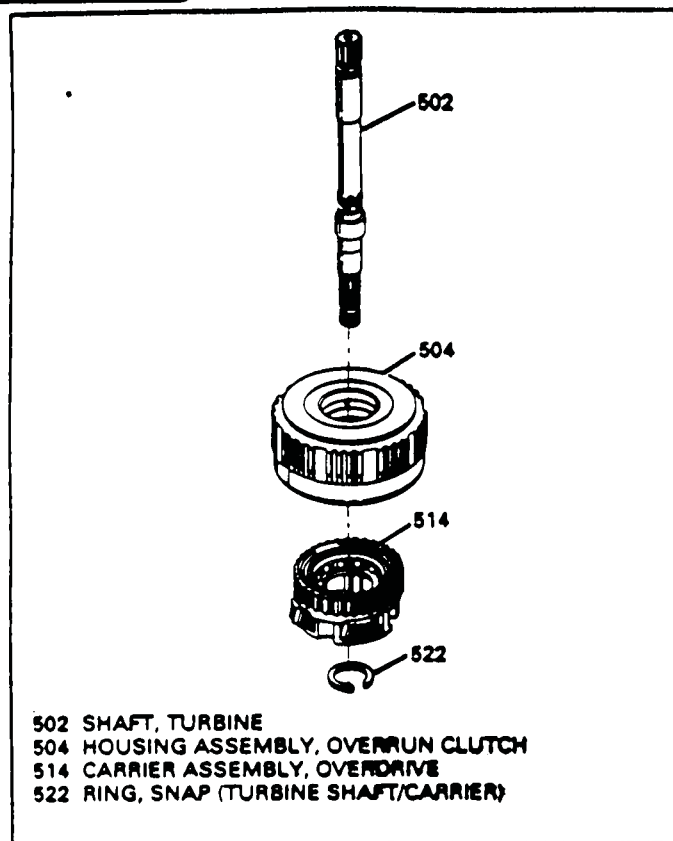

Figure 92
1. Remove snap ring (522) from the turbine shaft, as shown in Figure 92.
2. Remove the turbine shaft from the overdrive carrier (See Figure 92).
3. Remove the overrun clutch housing (504) from the overdrive carrier (Figure 92).